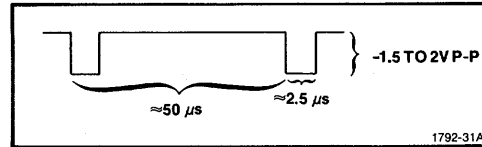

Figure 4-7. Pulse Generator Output.
45. Set the PG 502 Pulse Generator controls as follows for a generator output pulse as shown in Fig. 4-7.